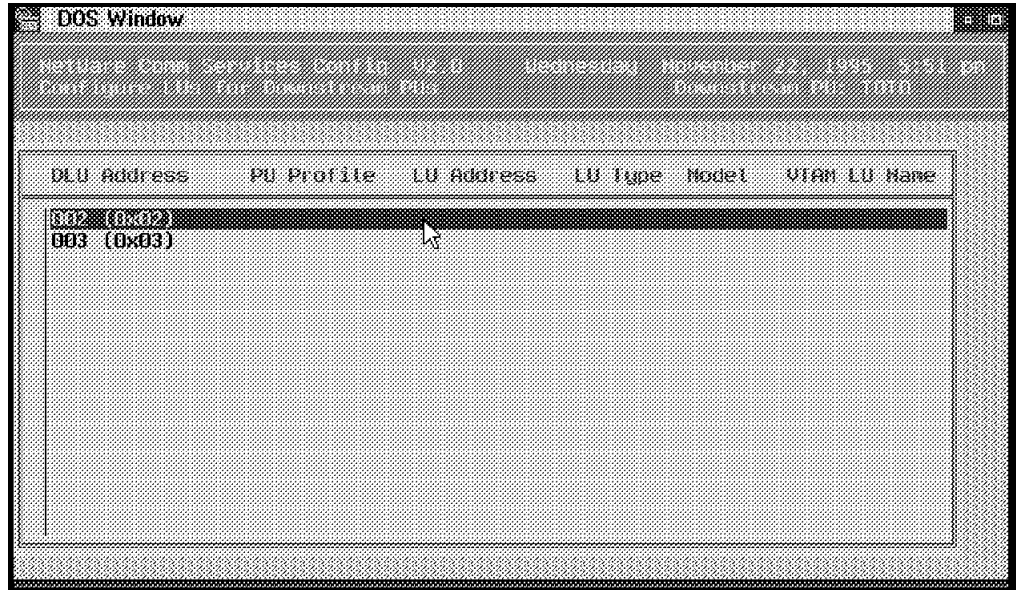

Figure 218. Configuring Downstream PUs - Defining the LUs
17. Choose **Configure LUs for Downstream PUs**, and the panel as shown in Figure 218 on page 213 appears.